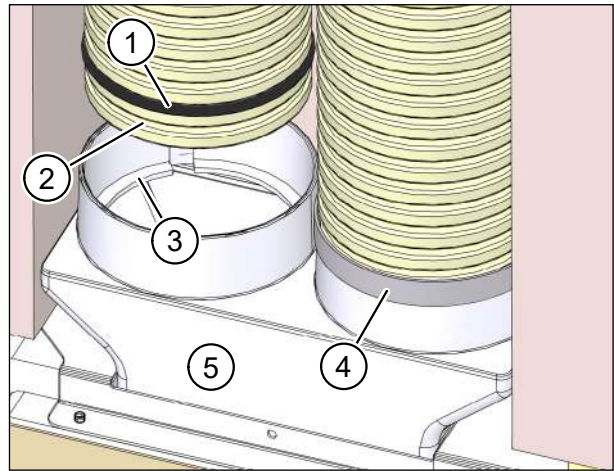

Fig. 56: Fixing a flexible pipe connection with sealing tape
- ▶ Insert the sealing rings (item 1 in Fig. 56) into the second groove on the flexible pipe. These are available as accessories M-WRG-FR-DR75 (part no. 5056-41/75).
- ▶ Insert the flexible pipes into the openings in the flexible pipe connection. Make sure that the first groove on the flexible pipe (item 2 in Fig. 56) engages with the locking ring (item 3 in Fig. 56) on the flexible pipe connection.
- ▶ Recommendation: Seal the joint with a layer of sealing tape 30 mm wide (item 4 in Fig. 56).
- ▶ Insert the flexible pipe connection (item 5 in Fig. 56) into the opening in the wall box.